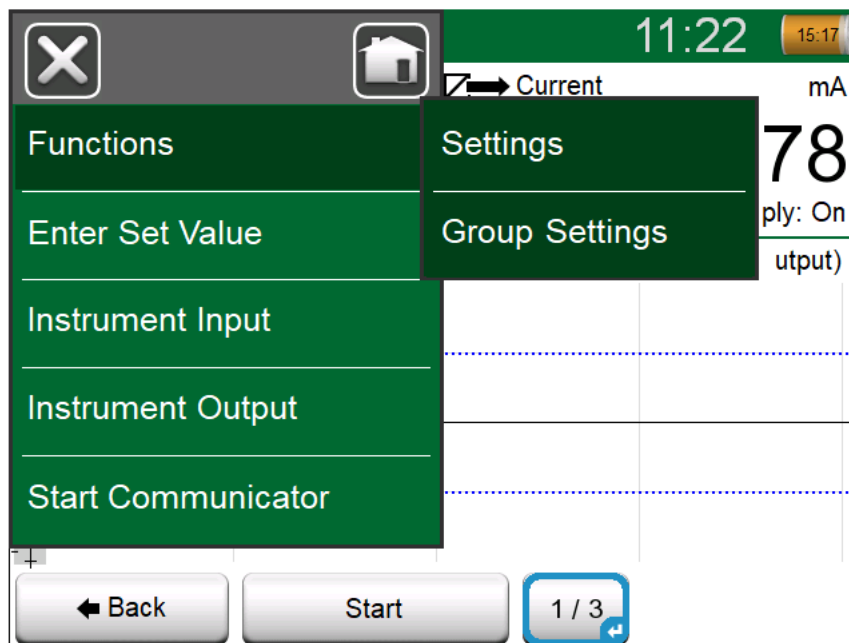

Figure 104: Calibration window – Settings and Group Settings
**Note:** The **Info** button in the Calibration window now indicates which instrument or function is currently shown (see Figure 104: Calibration window – Settings and Group Settings). Press the button to view the instrument configuration data and connection diagrams.
To open the **Group Settings** window, select **Functions > Group Settings** from the context-sensitive menu in the Calibration window (see Figure 104: Calibration window – Settings and Group Settings).